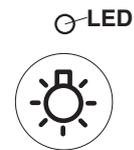

Fig.3-7 Light Pack Switch
④ Light Pack Switch (Optional)(Fig.3-7) **A** **E**